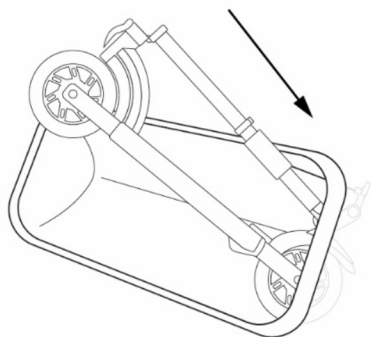

Figure 50 - Insertion in the trunk
1. First insert the front wheel into the trunk (**See Figure 50 - Insertion in the trunk**);